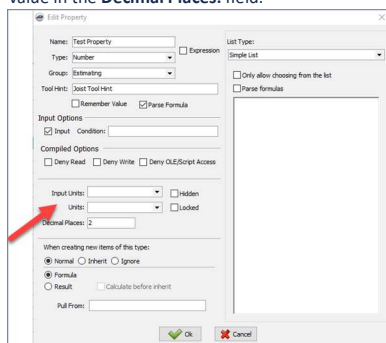

Figure 13
19. The **Input Units** and **Units** (Output Units) area allow you to specify the **Input Units** and **Output Units** columns in the **Joist Tool Properties** window (see Figure 13). You may specify whether they are to be hidden or locked by clicking the check boxes for **Hidden** or **Locked**. You may also specify the decimal places by entering a decimal value in the **Decimal Places** field.